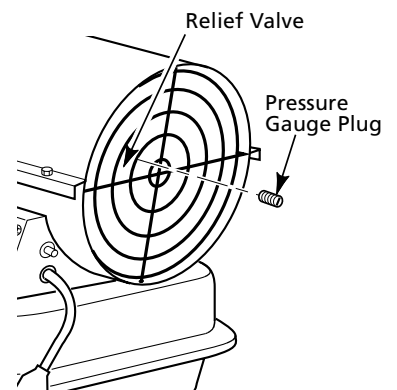

Figure 9 - Pressure Gauge Plug Removal
1. Remove pressure gauge plug from filter end cover (See Figure 9).